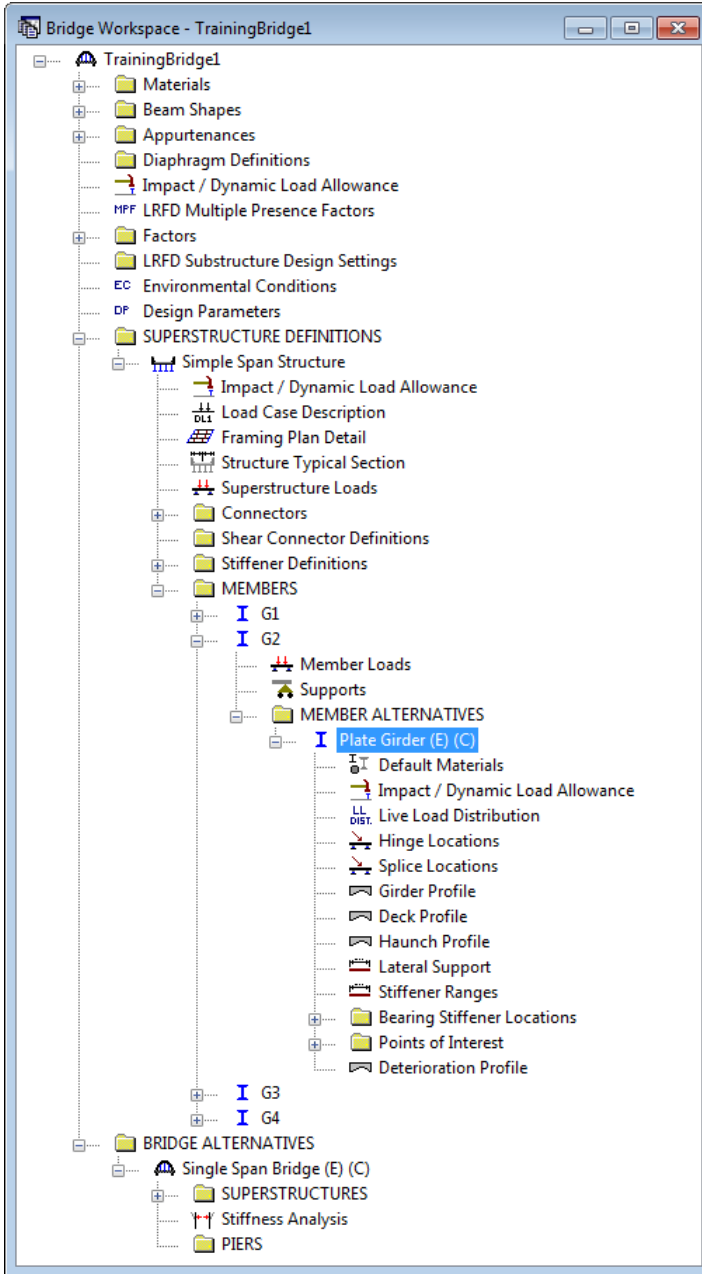

Fig 2. G2 - Girder Member Alternative Bridge Tree
Once Bridge Workspace tree shows up, expand “Simple Span Structure” under “SUPERSTRUCTURE DEFINITIONS” in the tree by clicking on “+”. Then expand “MEMBERS” and select “G2”. Expand “G2” and select “Plate Girder (E)(C)” under “MEMBER ALTERNATIVES”. Expand “Plate Girder (E) (C)” by clicking on the “+”. Then the Bridge Workspace tree will be as shown in Fig 2.